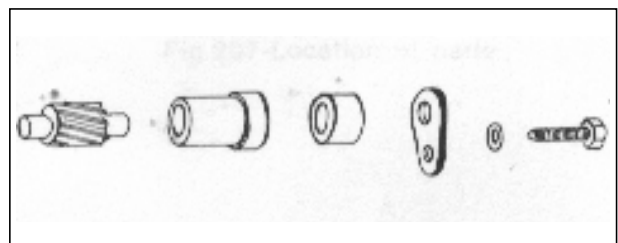

Fig. 202-Speedo Drive Pinion
- (a) Unscrew the bolt for fixing the plate from Caliper holding plate and take out the cable fixing plate alongwith the speedo cable. (fig.202)